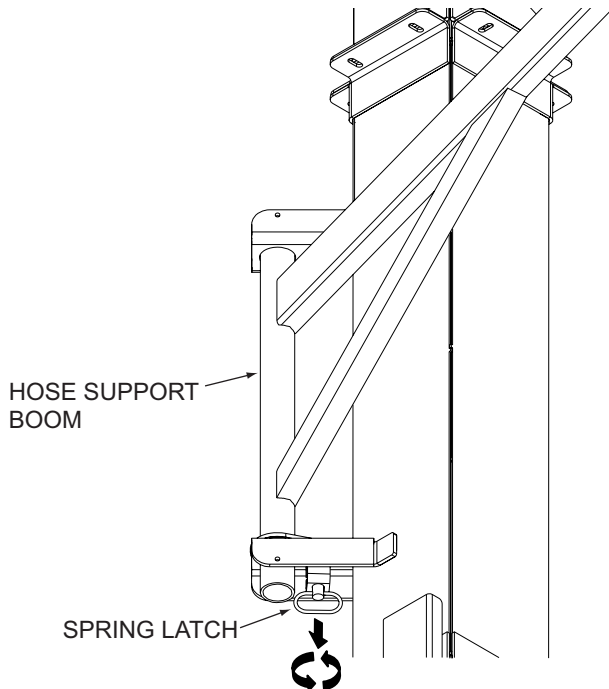

**Figure 4-5. Wheel Chocks**
- Block the wheels to prevent the machine from moving. See Figure 4-5.